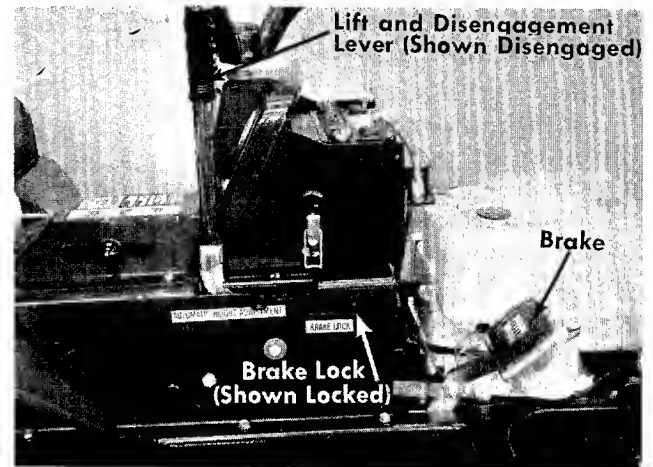

FIGURE 9. RIGHT HAND CONTROLS
c. **Brake.** The brake pedal is located on the right hand side of the mower and is operated by depressing it with your right foot. See figure 9.
d. **Brake Lock.** The brake lock is located on the right hand side of the mower. To lock the brake, depress the brake pedal and lift up the lock button. The pedal will stay depressed. To release, depress the pedal. See figure 9.
**l. Lift and Disengagement Lever.** It is used to raise the cutting deck. Pulling it all the way back and locking it disengages the blades. The engine will not start unless the lift and disengagement lever is in the disengaged position. See figure 9.
- Step 3. Place the lift and disengagement lever in the DISENGAGED position. See figure 9.
To stop the blades, move the lift and disengagement lever (figure 9) into the **DISENGAGED** position. This raises the deck and disengages the blades.